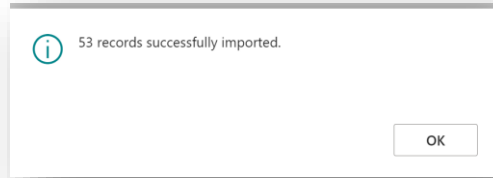

Figure 6-4
4. You will then receive a prompt like the below that the default setup has imported. Choose **OK** (Figure 6-4).